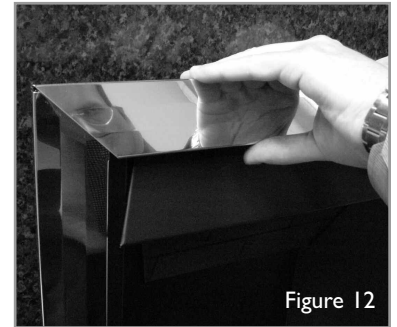

Figure 12
**Three-piece frame models :** The clip-on frame pieces should be hooked over the outer edges of the fireframe, (figure 12), and pushed firmly home. The sides should be fixed first, followed by the top bar, which overlaps the sides. Push firmly home.